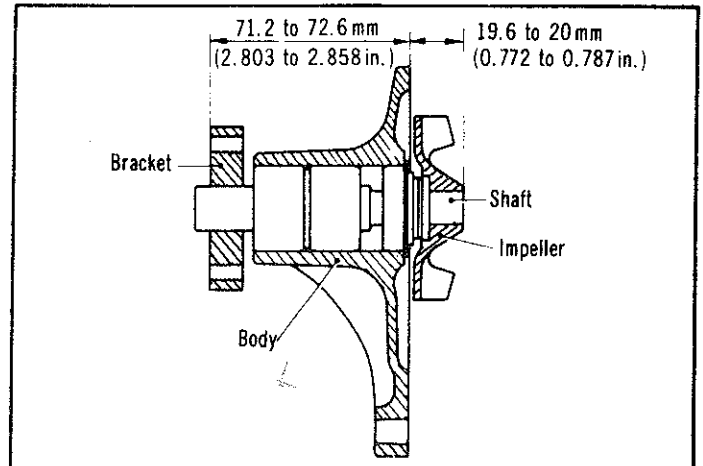

Fig. 6—Impeller and pulley bracket position
- (3) Remove the thermostat and re-install the housing.
- (4) Connect flushing gun, Tool E7C20, to the engine thermostat housing, using a length of rubber hose.
- (5) Install a drain hose in the water pump inlet.
- (6) Connect a flushing gun to sources of water and air pressure.
- (7) Fill the block with water by restricting the drain hose. Leave the water valve open.
- (8) Open and close the air valve to agitate and force away any foreign material. Continue the operation until the water runs clear.
- (9) For final block flushing, fill the block with water and remove the drain plug. Use air pressure until the water from the block drains runs clear.
- (10) To pressure flush the radiator, disconnect the two hoses from the engine and attach them to the radiator. Attach the flushing gun hose to the lower radiator tank and drain hose to the top tank.
- (11) Fill the radiator with water, leave the water valve open, then open and close the air valve until the water runs clear.
- (12) For final radiator flushing, attach flushing gun to top hose and repeat flushing operation.
(13) Test the thermostat. If satisfactory install with pellet toward engine, using new gasket (refer Fig. 6).
(14) Install hoses and refill cooling system as previously described.
(15) Run engine until normal operating temperature is reached and continue an additional five minutes to release any air trapped in system. Check coolant level and top up if necessary.
- (1) Heat the pump body to 100°C (212°F) and press in the shaft assembly until the face of the bearing is flush with the front of the pump body.
- (2) Install the new pump shaft seal.
- (3) Press the impeller onto the shaft, with the vanes facing out, until the impeller face is flush with the shaft face. Ensure that the distance between the body end face and the shaft end face is as shown in Fig. 6.
- (4) Install the pulley bracket to the shaft and in the position shown in Fig. 6.